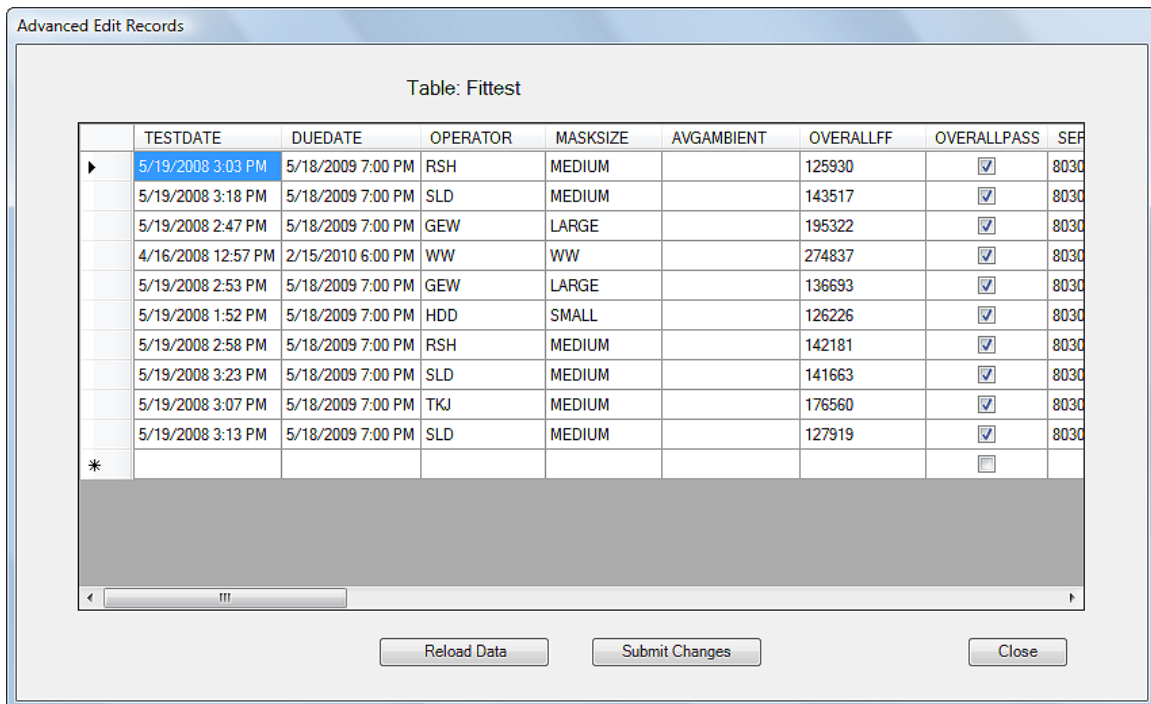

Figure 34. Advanced Edit Records Dialog
3. Click **Open** when the correct database and table are selected. The Advanced Edit Records dialog (Figure 34) appears. (The name of the selected database is shown in the title bar.)